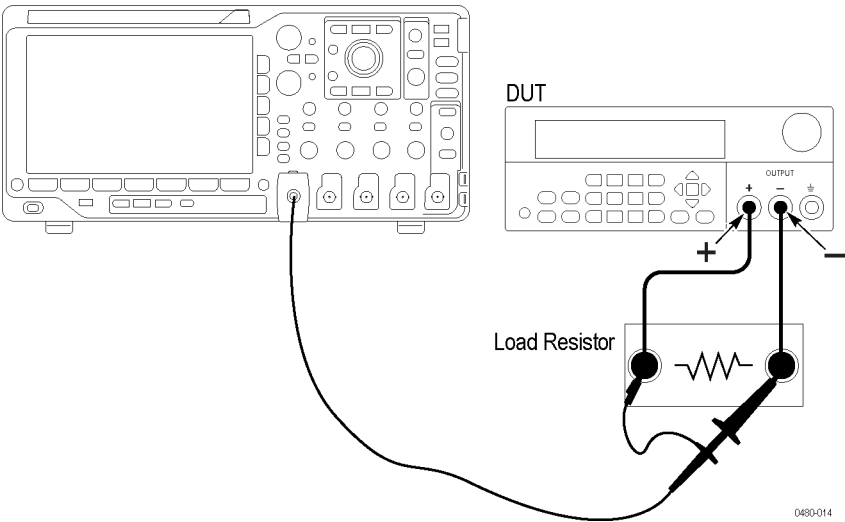

Figure 5: 7 MHz test setup
4. Set up the equipment as shown. (See Figure 5.)